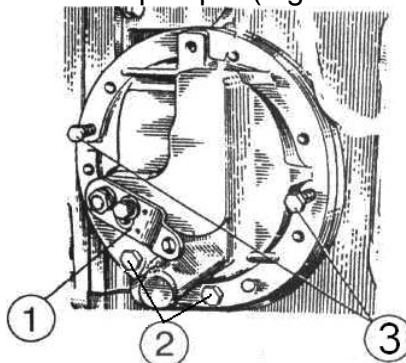
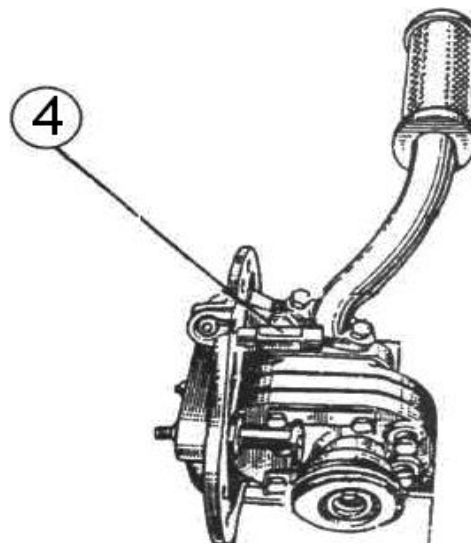

Figure 4.56
Figure 4.57
b) move lever for switching on transmission pump 1 (Figure 4.56) clockwise to the end;
c) unscrew fastening bolts 2 (Figure 4.56), using dismounting bolts 3 remove pump drive 4 (Figure 4.57) as an assembly;